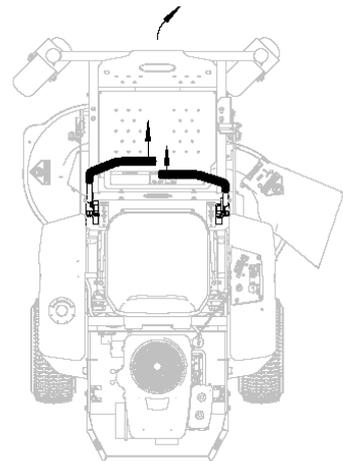

Figure 8
- **Forward and backward Motion(Refer to Figure 8):**
Turning(Refer to Figure 8):